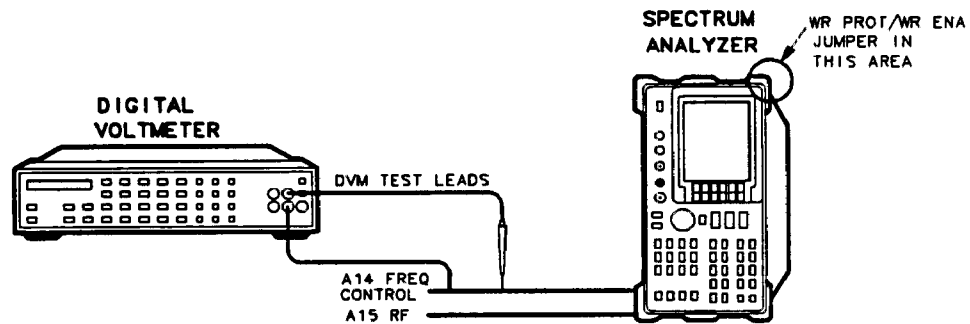

Figure 2-10. Dual Band Mixer Bias Adjustment Setup
1. Connect the equipment as shown in Figure 2-10. Connect the positive DVM probe lead to A14J19 pin 13. Connect the ground lead to pin 6 of A14J19. Set the HP 3456A to 10 V dc range with 10 mV resolution.